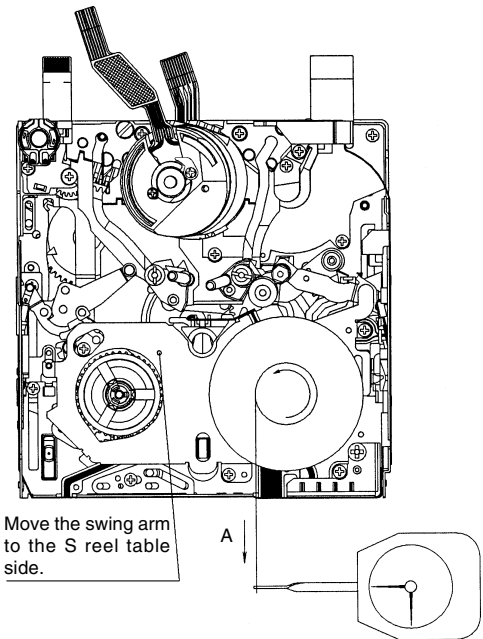

Fig.7 How to measure the loading back tension
- (1) Apply 3 to 4V DC to the loading motor and select the L start mode. (See 8-1.)
- (2) Move the swing arm to the S reel table side. At this time, take care not to damage the gears etc. (See Fig.7.)
- (3) Set the reel hub for back tension measurement on the Tu reel table.
- (4) Using the dial tension gauge, pull the thread of the reel hub in the direction shown by Arrow A and check that the tension is within spec.